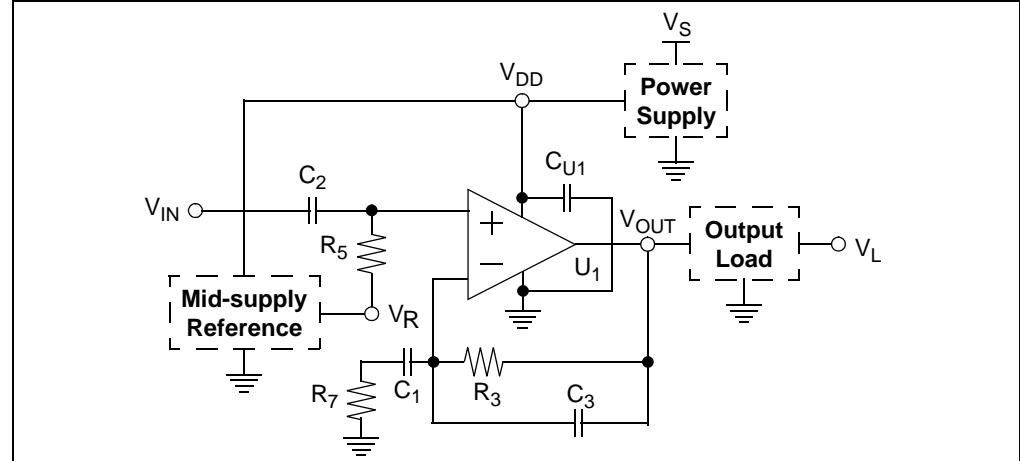

FIGURE 2-18: Non-Inverting Differentiator Circuit Diagram.
- The Mindi™ Amplifier Designer gives design recommendations for the non-inverting differentiator circuit; see the circuit diagram shown in Figure 2-18